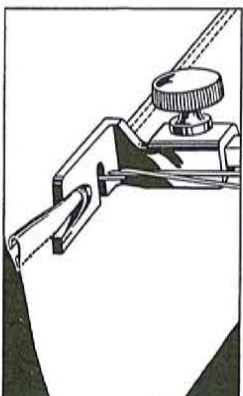

Fig. 41. Making a Filled Seam (Second Operation)
2. Open work out flat, wrong side up, and hem free edge of seam, stitching it flat to garment, as shown in Fig. 41.